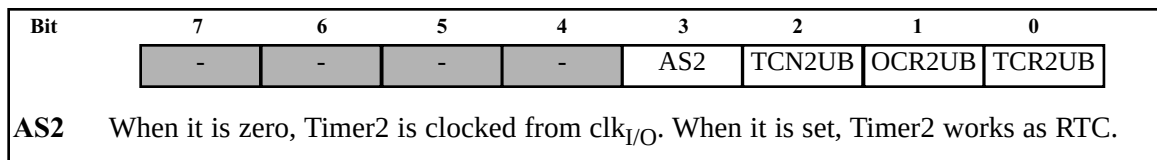

Figure 12. ASSR (Asynchronous Status Register)
See Figure 12. Timer2 is an 8-bit timer. Therefore it works the same way as Timer0. But there are two differences between Timer0 and Timer2:
1. Timer2 can be used as a real time counter. To do so, we should connect a crystal of 32.768 kHz to the TOSC1 and TOSC2 pins of AVR and set the AS2 bit. See Figure 12. For more information about this feature, see the AVR datasheet.